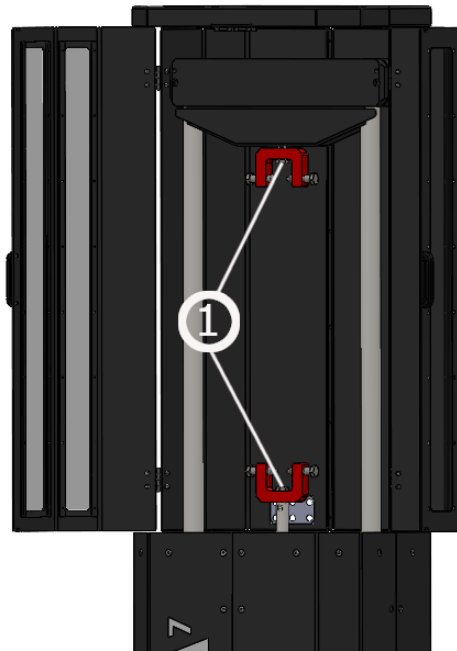

Figure 10
2. Use a wrench tool to unscrew both vertical bolts to release the clamp heads. (Figure 10 – Step 1)